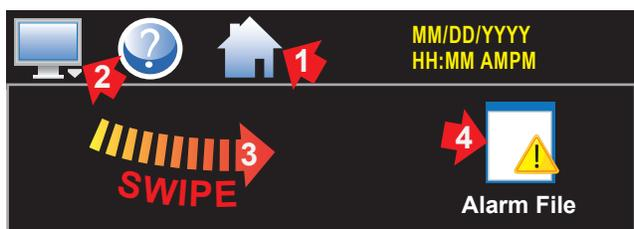

Figure 41. Alarm File Icon
1. Touch: (1)Home (2)Monitor (3)swipe left-to-right, touch (4)Alarm File icon (Figure 41).